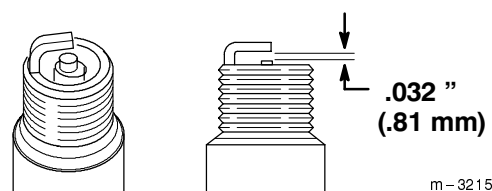

Figure 25
5. Set the spark plug gap (Fig. 25) between the electrodes to .032 inches (.81 mm).